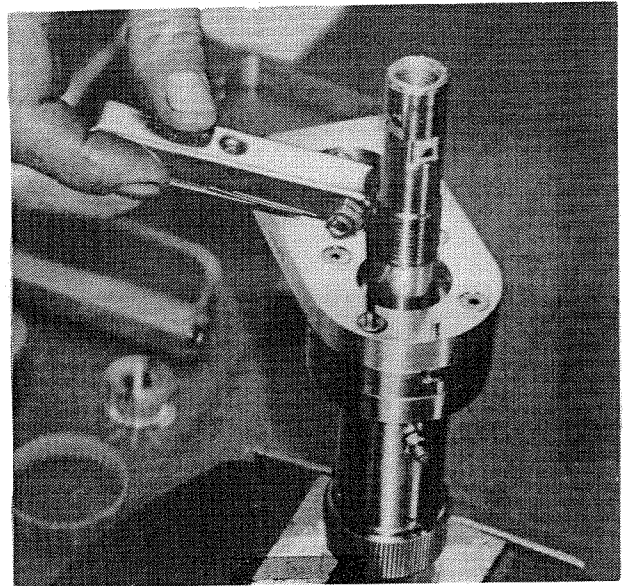

FIGURE 5-20
H. REMOVE SCREWS, (ITEM #7), AND REMOVE SWIVEL FROM PLATE, (ITEM #2). SEE FIGURE 5-20.